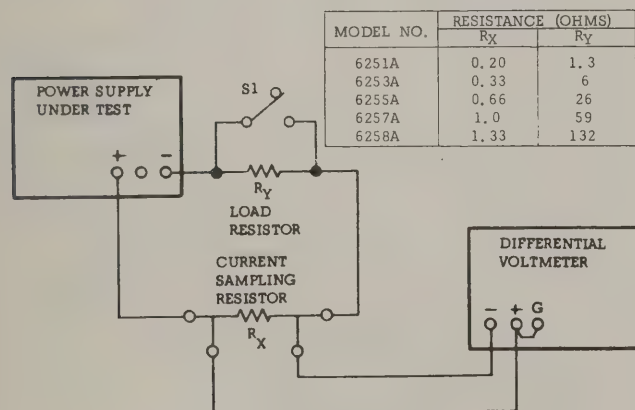

Figure 5-4. Output Current, Test Setup
a. Connect test setup shown in Figure 5-4 leaving switch S1 open.
- Connect test setup as shown in Figure 5-4.
a. Utilize test setup shown in Figure 5-4 leaving switch S_1 open throughout test.
a. Use test setup shown in Figure 5-4, except connect AC voltmeter across sampling resistor instead of differential voltmeter.